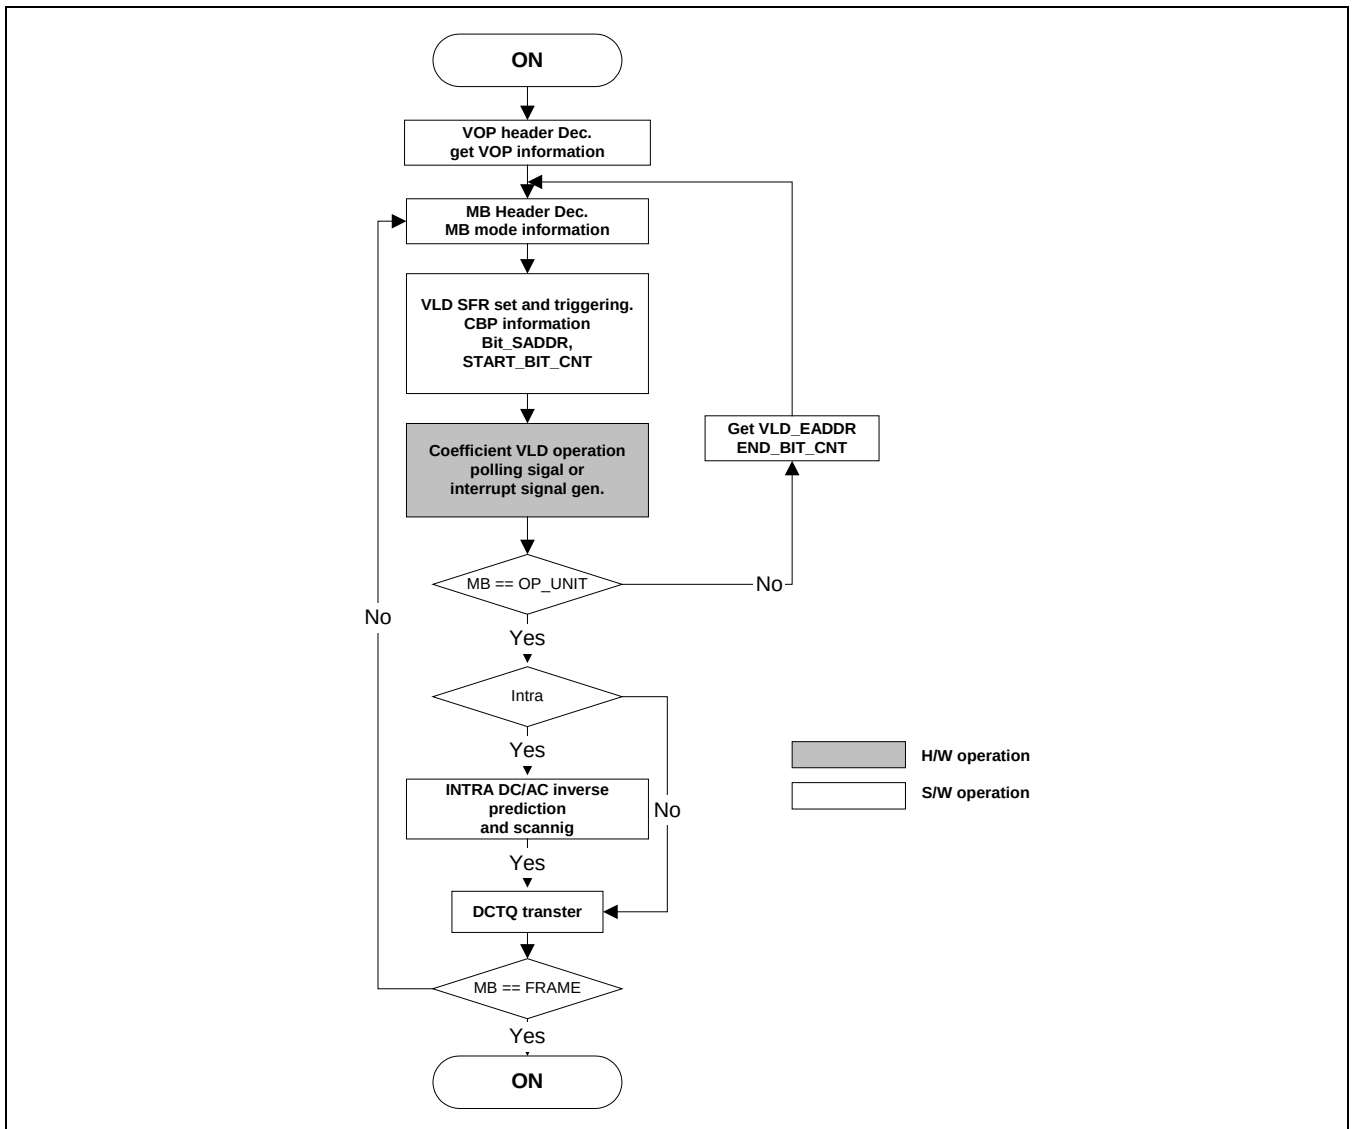

Figure 24-26. VLD Flow Chart and s/w and h/w Processing Partition.
- VLD processing explained Figure 24-26 VLD flow chart. VLD flow chart is partitioned S/W processing and H/W processing.